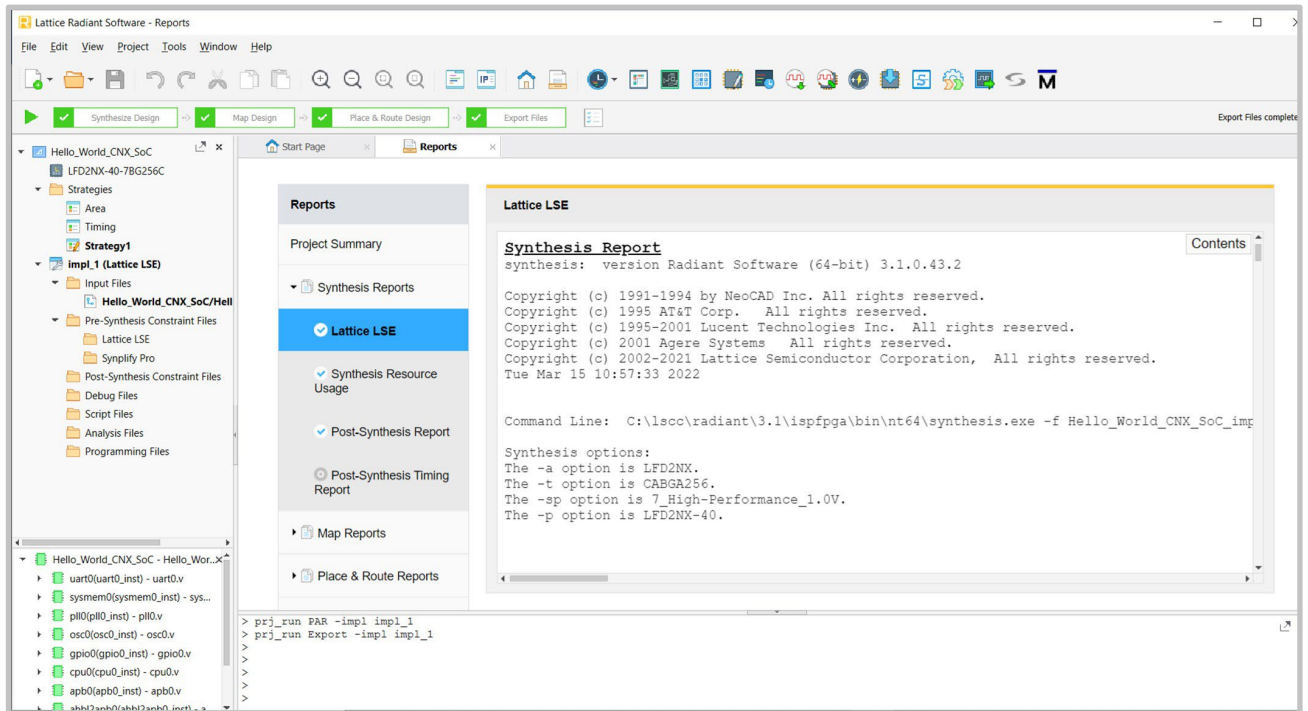

Figure 14: Opening the Project in Lattice Radiant
11. Back in the **Project Explorer**, highlight **Hello_World_CNX_SoC** and select run **Lattice Radiant, Lattice Radiant Software** opens in a new window, see **Figure 14**.